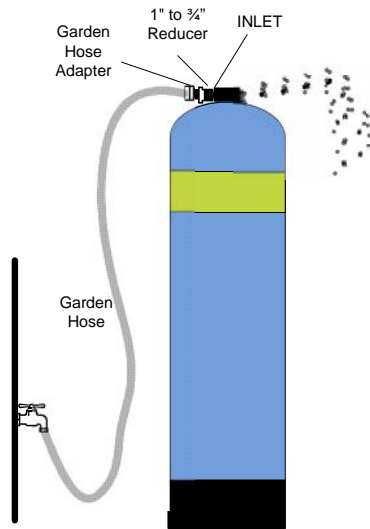

Figure 1
2. Attach your garden hose to the garden hose adapter. (See figure 1)